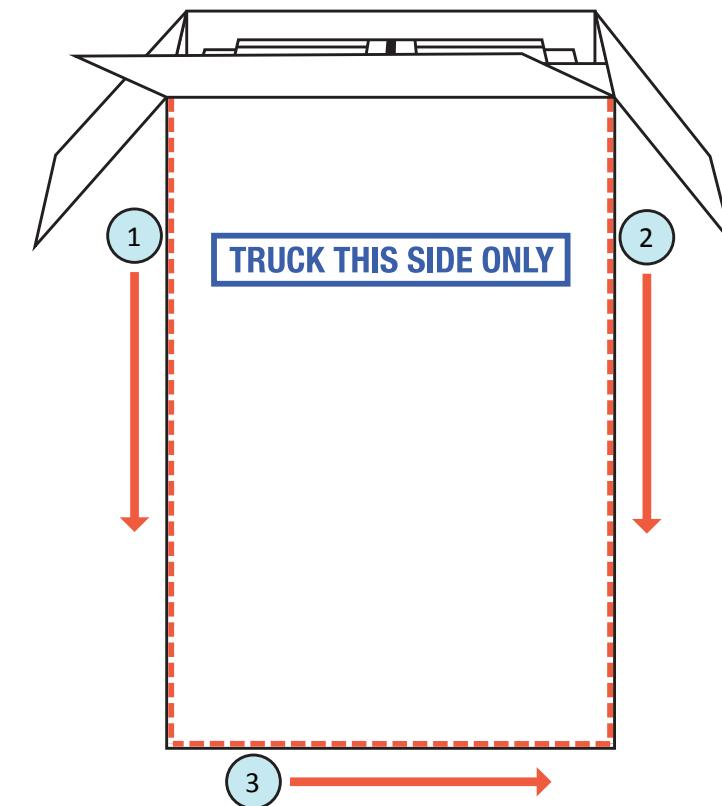

Figure A3b. Removing the "TRUCK THIS SIDE ONLY" side of the carton.
- 2)** Using a utility knife, remove the "TRUCK THIS SIDE ONLY" side of the shipping carton (see figure A3b). Carefully cut down the left and right sides of the box. Let the flap fall to the floor, then cut across the bottom edge (taking care not to damage the floor).